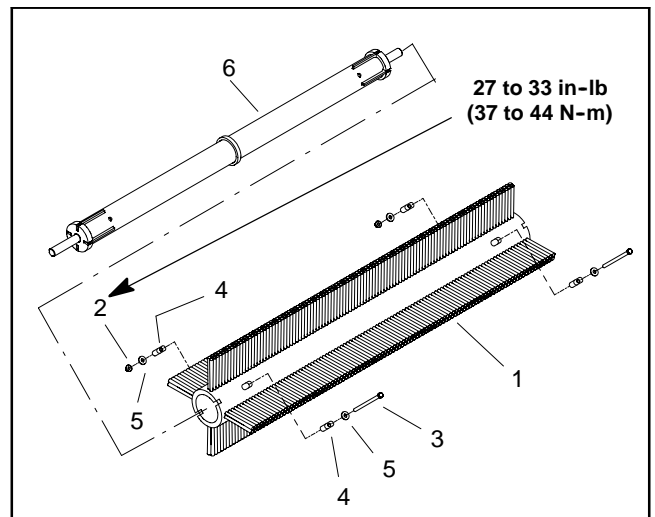
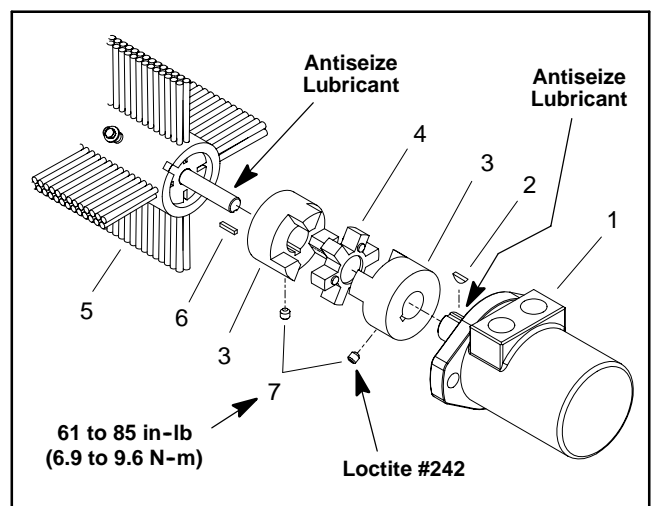

Figure 6
Figure 7
2. Remove hydraulic brush motor from brush housing (see Hydraulic Brush Motor Removal in the Service and Repairs section of Chapter 3 - Hydraulic System). Remove coupler spider (item 15).
3. Loosen set screws (item 14) that secure coupling jaw to brush shaft. Slide coupling jaw from shaft. Locate and retrieve square key from brush shaft.
4. Remove carriage bolts (item 7), flat washers (item 16) and lock nuts (item 17) that secure bearing flanges to brush housing.
7. Loosen three (3) set screws that secure bearings to brush shaft. Slide bearing and bearing flanges from both ends of shaft.
8. Disassemble brush using Figure 6 as a guide.
1. Assemble brush using Figure 6 as a guide. Torque flange nuts from **27 to 33 ft-lb (37 to 44 N-m)**.
6. Secure bearing flanges to brush housing with carriage bolts (item 7), flat washers (item 16) and lock nuts (item 17). Center brush between bearings.
A. Position the bearing collar so that a set screw is directly opposite the split in the bearing sleeve. Tighten three (3) set screws in bearing so that they are finger tight. Make sure that brush is still centered between bearings.
11. Make sure that coupling jaws have a gap between coupler jaw valleys from 0.830" to 0.930" (21.1 to 23.6 mm). Apply Loctite #242 (or equivalent) to threads of coupling set screws. Secure coupling jaws to motor shaft and brush shaft by torquing set screws from **61 to 85 in-lb (6.9 to 9.6 N-m)** (Fig. 7).